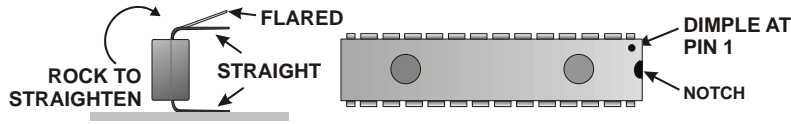

Figure 16. Installing the MCU.
- Remove MCU U1 from its package or anti-static foam pad and inspect the pins. The two rows of pins must be straight and parallel to each other to establish the proper pin spacing for insertion into the socket. To straighten the pins, rest one entire row of pins against a hard, flat surface. Hold the body of the MCU and rock it forward to bend the pins into position as shown in Figure 16.
- Identify the end of the IC where Pin 1 is located. It will have a notch, a dimple or both at this end (See Figure 16). Align the MCU on the socket with the notched or dimpled end of the MCU over the notched end of the socket. Carefully inspect the alignment of each MCU pin and its corresponding socket. Pay particular attention to the row of pins along the relays. Put a strong light on the relays and look under the MCU with your magnifier to see the pins near the relays clearly. Be certain that all the pins are started down into their respective socket positions before proceeding.